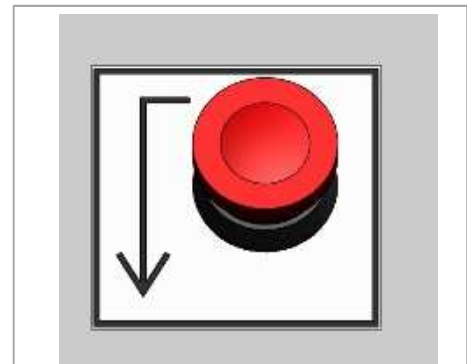

Fig. 4.11
- + Press the release button (Fig. 4.11) The tool opens the jaws.